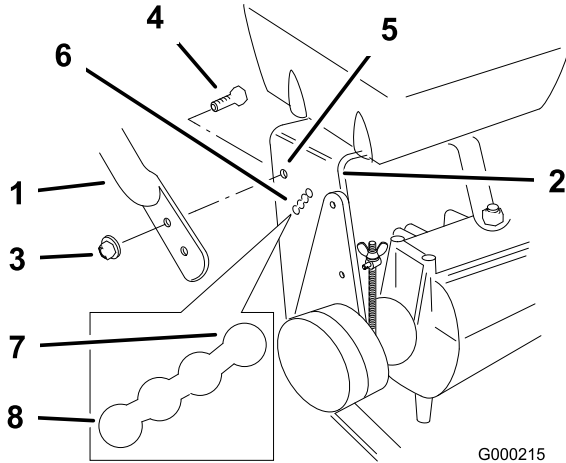

Figure 19
- Loosen the upper flange bolts (3/8 x 1 inch) and the flange nut securing the handle to the rear frame (Figure 19).
- Remove the lower flange bolts (3/8 x 1 inch) and flange nuts securing the handle to the rear frame (Figure 19).